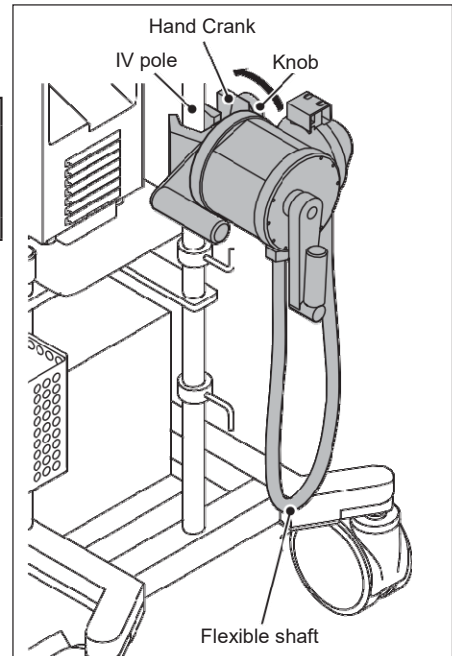

Figure 1-81
1. **Attach the Hand Crank to the IV pole, and secure it with the knob. (Figure 1-81)**